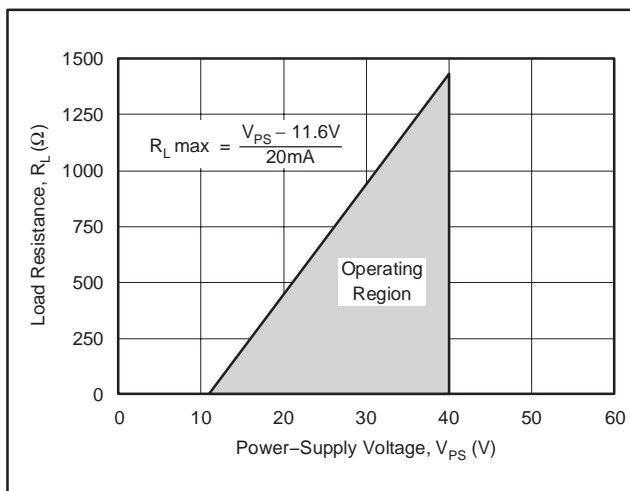

Figure 4. Power-Supply Operating Range
6. Always choose R_L (including line resistance) so that the voltage between pins 7 and 8 ($+V_{CC}$) remains within the 11.6V to 40V range as the output changes between the 4-20mA range (as shown in Figure 4).